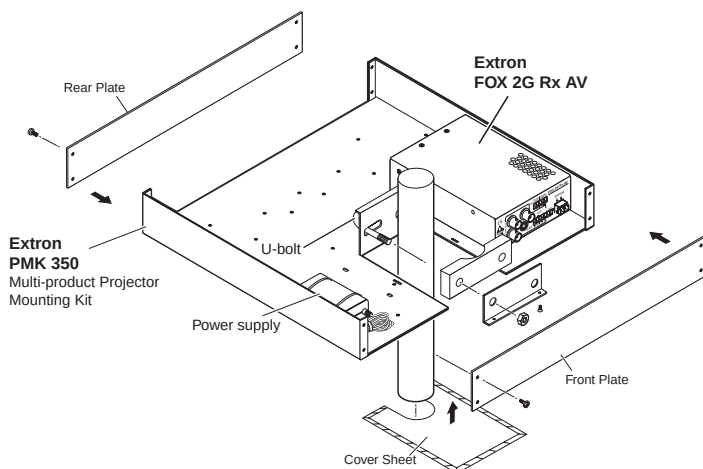

Figure 2-4 — Above projector mounting
5. Mount the power supply, using the provided plastic ties or Velcro® strips (see figure 2-4 below).
13. Reattach the cover sheet (see figure 2-4).